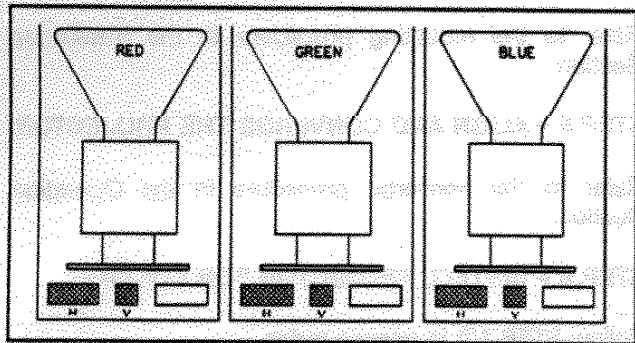

FIGURE B-1. Yoke Plug Locations
- ii) **Locate the Yoke Plugs.** The horizontal and vertical yoke plugs are located at the top rear of the projector, slightly below the CRT necks. See Figure B-1 below.